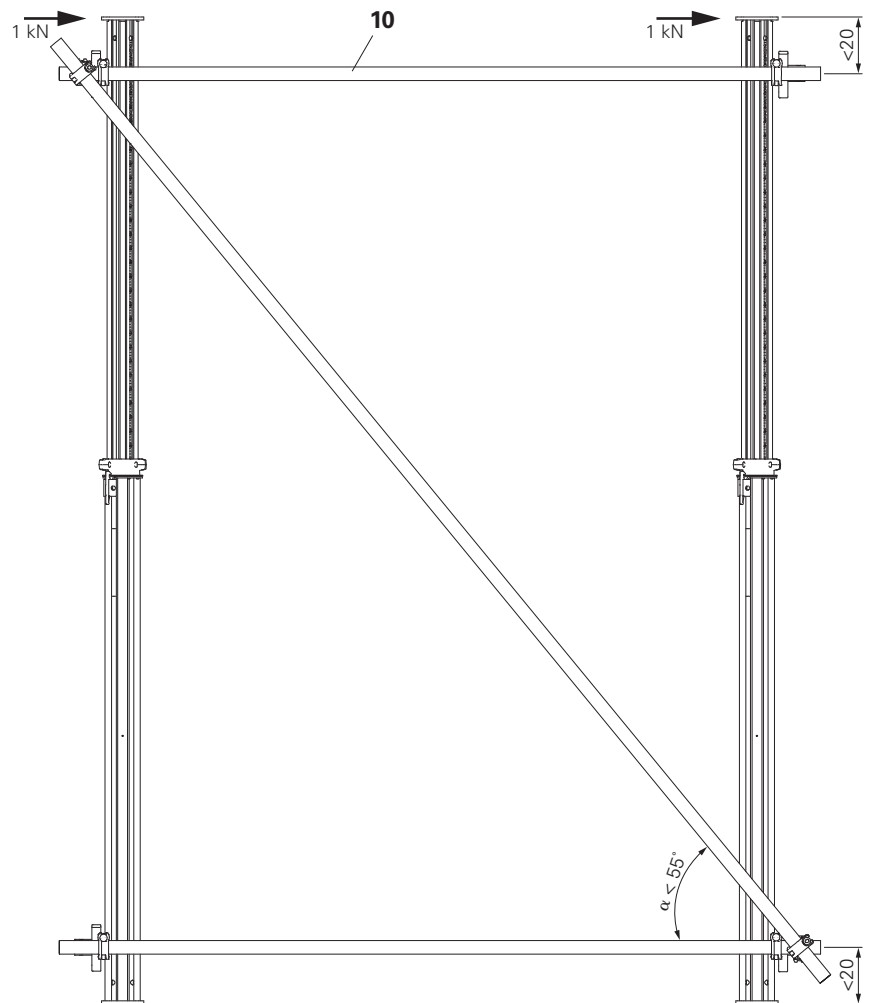

Fig. B.1.01
- They are installed in segments and towers, and are designed to stabilise the MULTIPROP MP. (Fig. B.1.01)